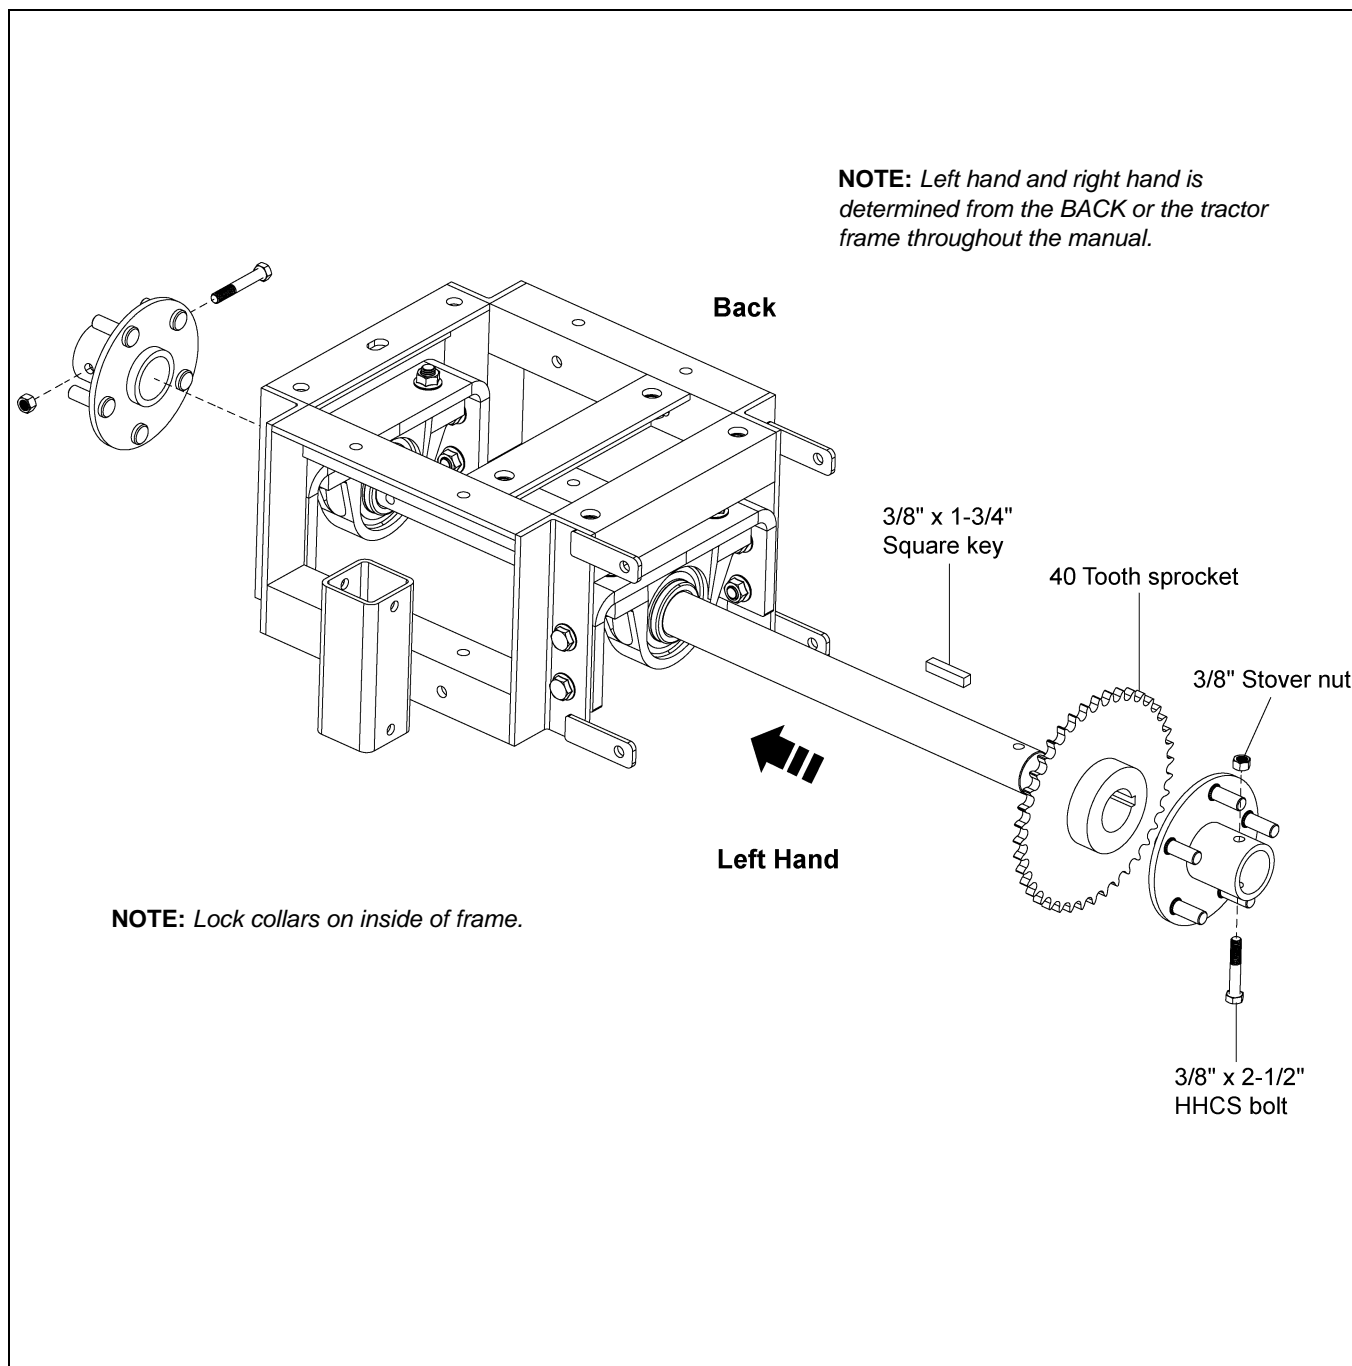

Figure 4B
- Mount the wheel hubs to the tractor axle using 3/8"-16 x 2-1/2" hex head cap screws and stover lock nuts. (See Figure 4B.)